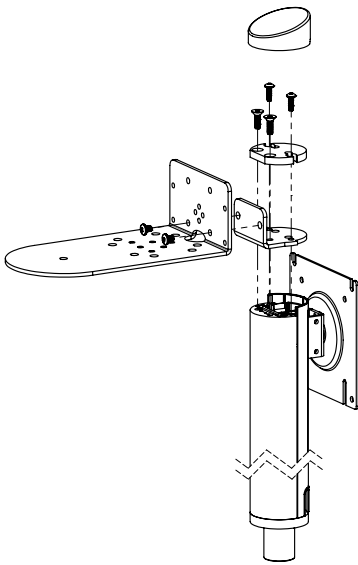

Figure 3
5. *CAM HOLDER* and the *POST BRACKET* can switch the orientation up and down as option in **Figures 3, 4, 5, 6, and 7.**